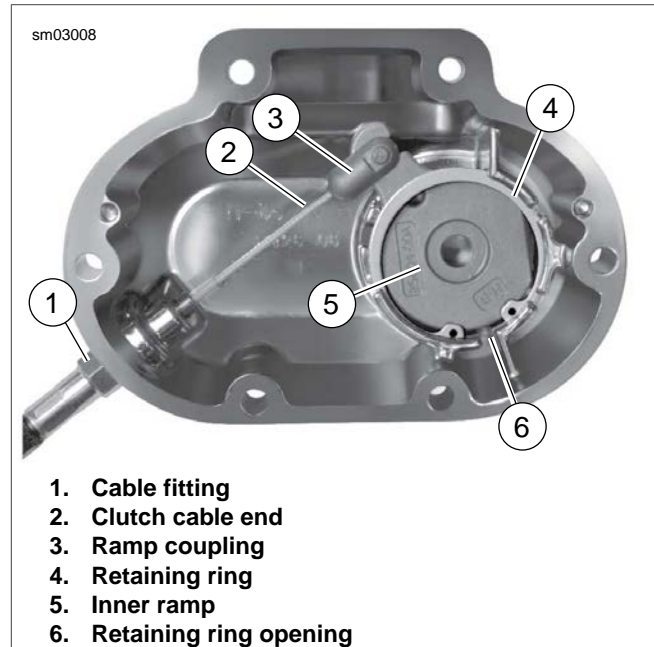
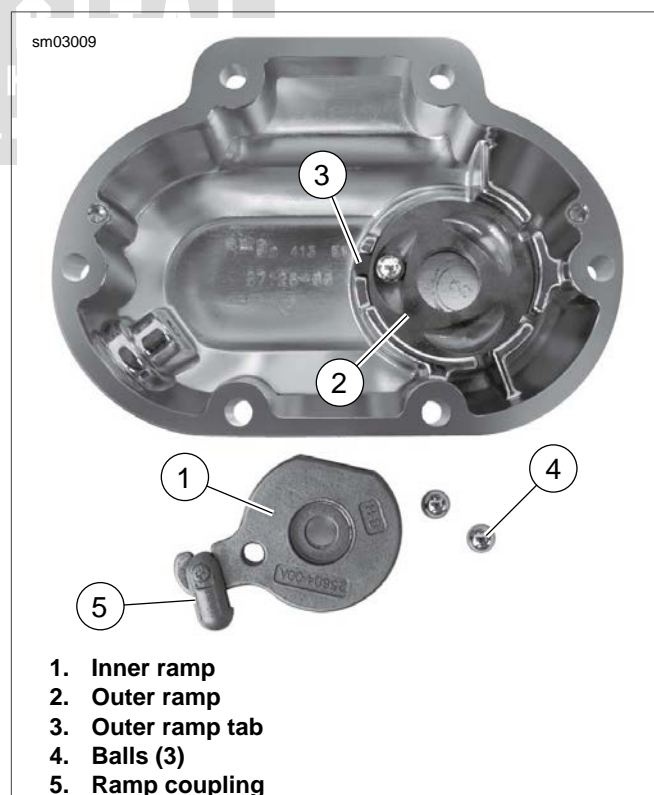

Figure 6-4. Clutch Cable Connection
Figure 6-5. Coupling and Ramp Assembly
6. See Figure 6-4. Remove retaining ring (4). Lift inner ramp (5) and ramp coupling (3) out of clutch release cover. Disconnect clutch cable end (2) from the ramp coupling (3).
7. Remove coupling (3) from inner ramp.
8. See Figure 6-5. Remove balls (4) and outer ramp (2).
1. See Figure 6-4. Apply a drop of Loctite Threadlocker 243 (blue) to the clutch cable fitting (1) and install into clutch release cover. Do not tighten at this time.
4. See Figure 6-4. Connect cable end to ramp coupling (3). Install coupling on inner ramp (5) and place inner ramp and coupling in position in clutch release cover.